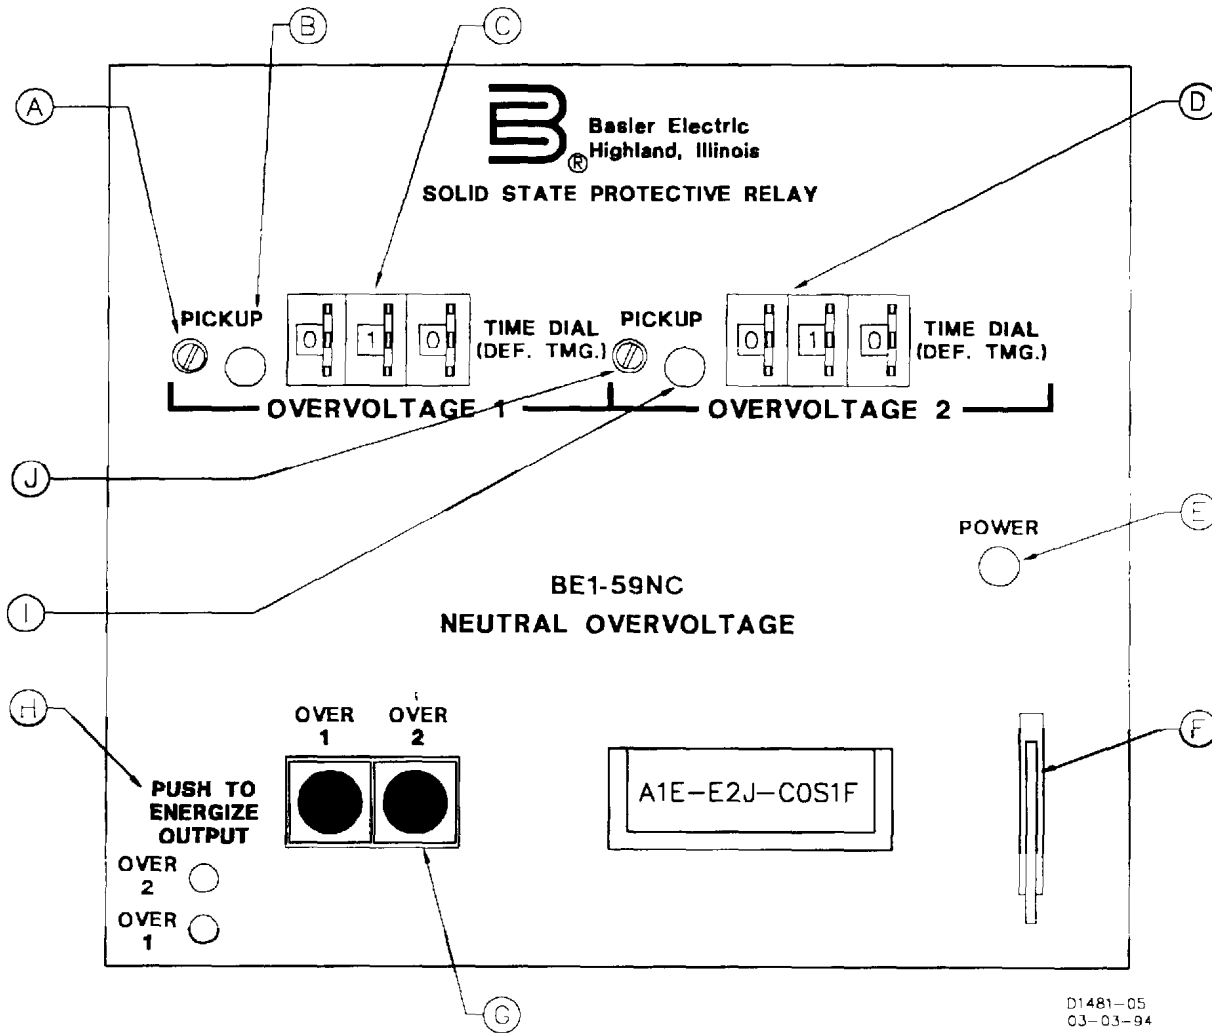

Figure 2-1. Location of Controls and Indicators.
*Table 2-1. Controls and Indicators (Refer to Figure 2-1)*